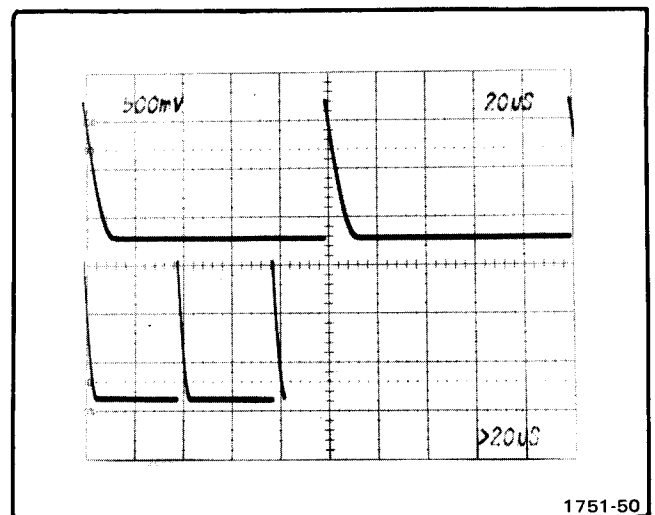

Fig. 5-3b. Variable Time/Division range.
i. Check—with VARIABLE control released and turned fully counterclockwise, at two Delayed sweep markers (bottom) to one Delaying sweep marker is visible, as shown in Fig. 5-3b.